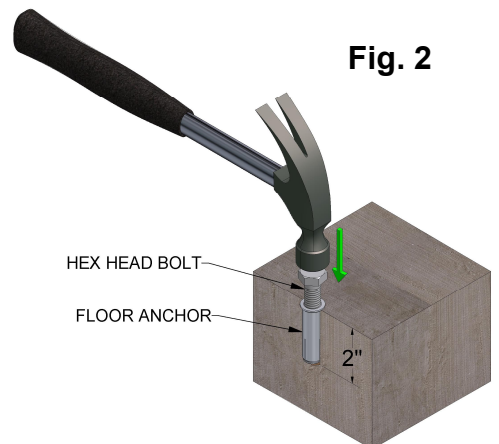

Fig. 2
3. Turn a hex head bolt 3 full turns into a floor anchor, and insert it into the drilled hole (**Fig. 2**).
4. Use the hammer to tap the top of the bolt until the floor anchor is flush with or just below the top of the concrete (**Fig. 2**).